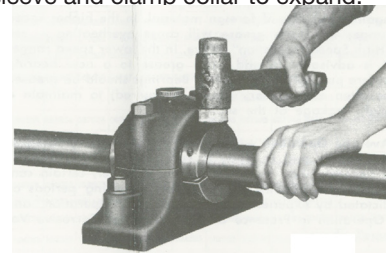

Figure 1
5. Tighten clamp collar screws at both ends of bearing, to torque value in Table 3 then tap on outside of both clamp collars using a soft hammer or block to prevent denting. It is important not to tap on end or corner of collars. Instead, tap straight against outside of collar as shown in Figure 1.
9. If bearing does not slip freely from shaft after clamp collar screws are loosened rap on outside of clamp collar using a soft hammer or block to prevent denting (see Figure 1). This will allow sleeve and clamp collar to expand.